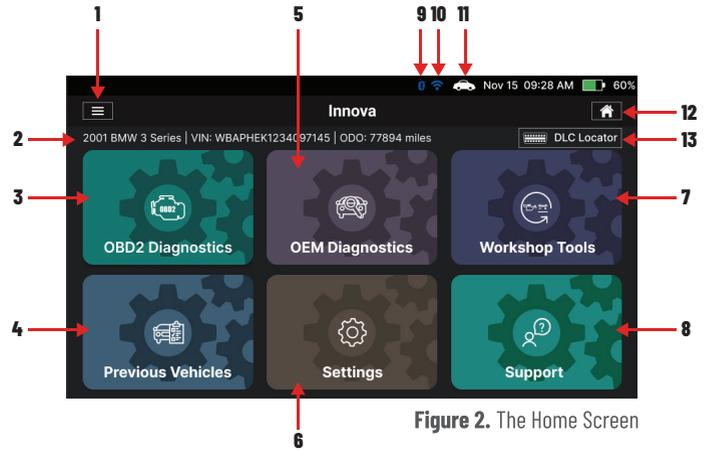

Figure 2. The Home Screen
**See Figure 2 for the explanation of items 1 through 13, below:**